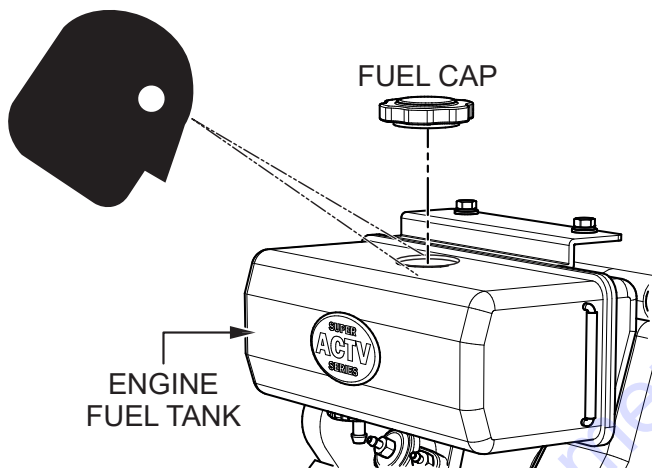
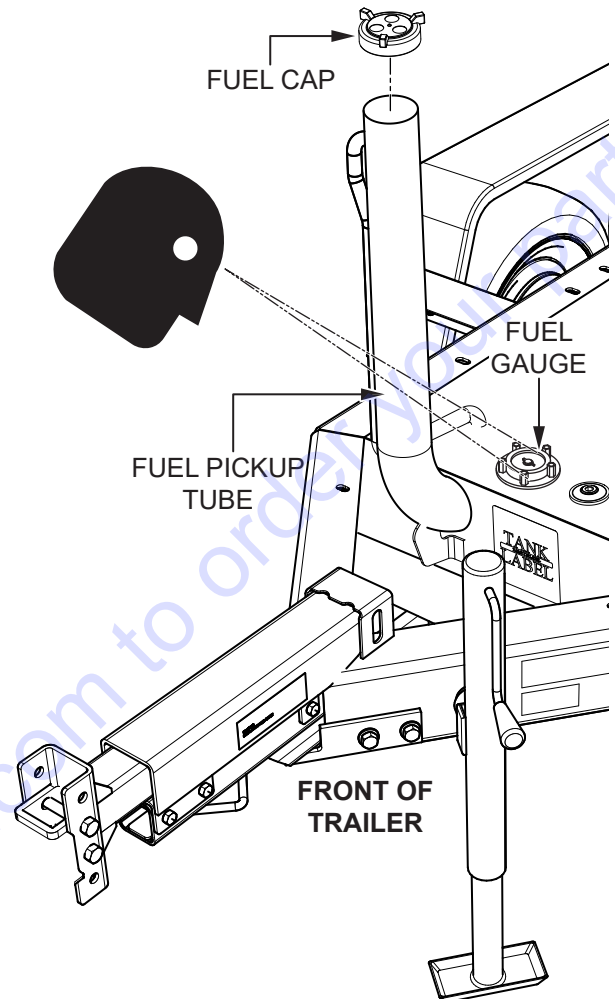

Figure 7. Fuel Inspection (QP4TKT10)
Figure 8. Fuel Inspection (QP4TKT16/QP4TKT28)
1. Identify and remove the fuel cap. On pump model QP4TKT10, the fuel cap is located on top of the engine fuel tank (Figure 7). On pump models QP4TKT16 and QP4TKT28, the fuel cap is located near the front of the trailer, on top of the fuel pickup tube (Figure 8).
2. Check the fuel level. On pump model QP4TKT10, visually inspect the fuel level inside the engine fuel tank (Figure 7). On pump model QP4TKT16 or QP4TKT28, read the fuel gauge located near the base of the fuel pickup tube (Figure 8).